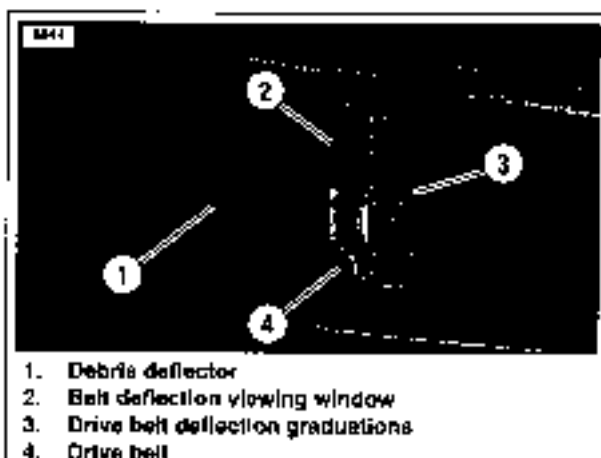
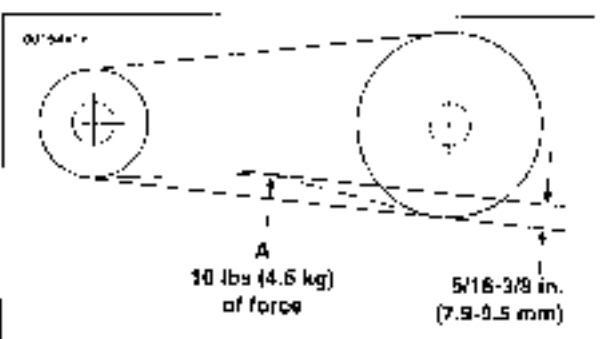

Figure 1-36. Belt Deflection Window
Figure 1-37. Checking Belt Deflection
- Slide O-ring (4) toward 0 ft-lbs (0 kg) mark (3).
- Fit belt cradle (2) against bottom of drive belt halfway between drive pulleys (point A in Figure 1-37).
- Press upward on knob (6) until O-ring slides down to 10 ft-lbs (4.5 kg) mark (5).
- See Figure 1-36. Measure belt deflection as viewed through deflection viewing window (2) while holding gauge steady. Deflection graduations (3) are 1/8 in (3.2 mm) apart.
- See Figure 1-37. Check that the drive belt bottom strand deflects 5/16-3/8 in. (7.9-9.5 mm) while applying 10 lbs (4.5 kg) of force upward at point A.